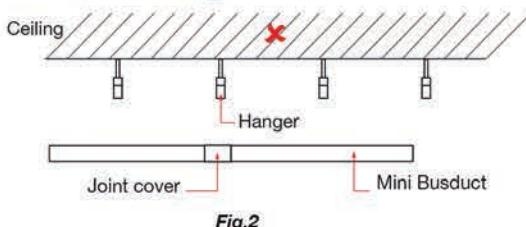

Fig.2
- Do not hang up Mini Busducts after jointing as shown in Fig. 2.